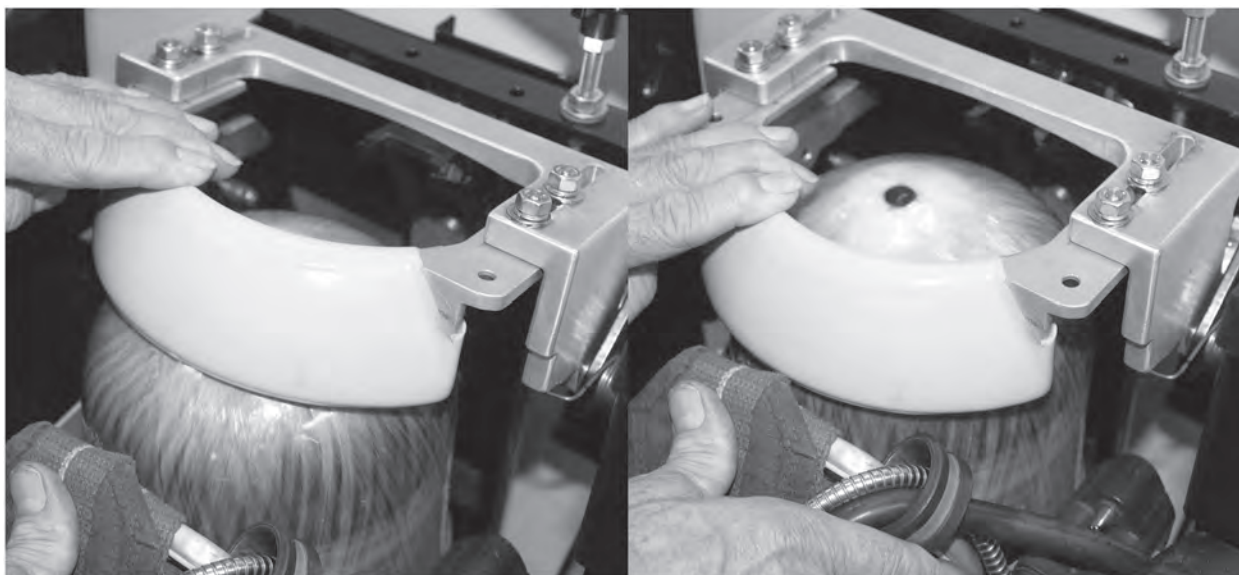

Figure 8
14. Press rearward on the Serrated Latch Stop Pin to open the Top Clamp Assembly. Place the air cylinder valve in the Footplate and move the SCBA into the bracket, closing the Top Clamp Assembly as the top of the air cylinder passes the front of the Top Clamp Assembly (see Figure 8, below).